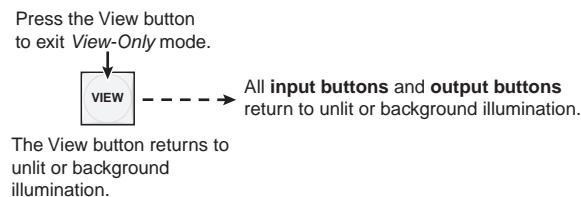

Figure 3-28 — Press the View button to exit View-Only mode
7. Press and release the View button to exit View-Only mode (figure 3-28).